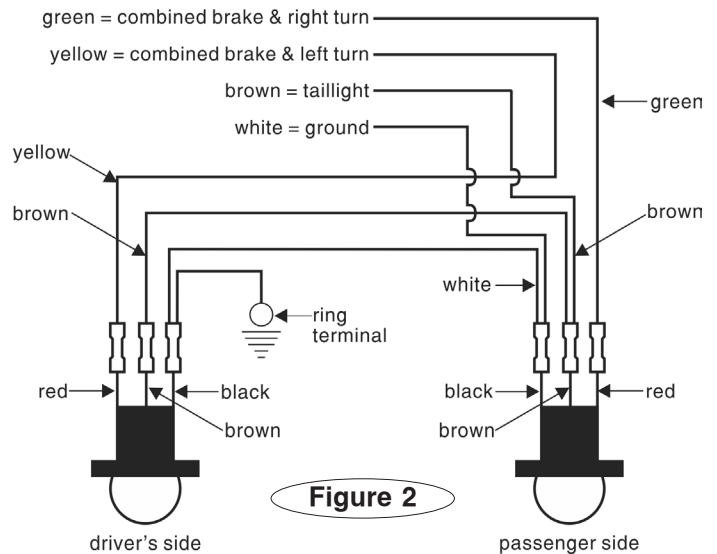

Figure 2
6. Use the butt connectors to attach the four-wire electrical harness to the sockets. Figure 2 is ROADMASTER's recommended wiring schematic.
7. Use the included ring terminal and the self-tapping screw to ground the towed vehicle, as shown in Figure 2.
4. Test each of the circuits to confirm that the lighting functions correctly. Refer to Figure 2.